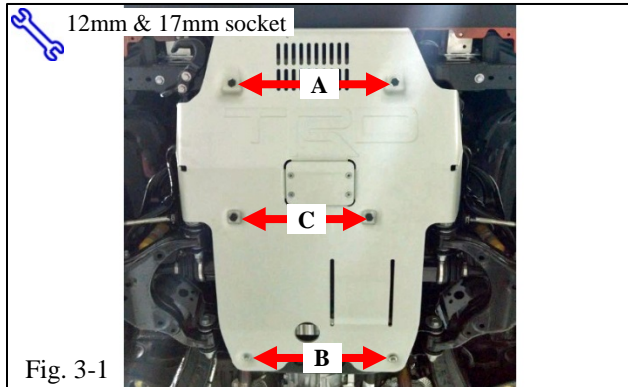

Fig. 3-1
- (a) Use a 17mm hex socket to finger start the front bolts (M12 x 1.25 x 67mm) (A, Fig. 3-1).
- (b) Use a 12mm hex socket to finger start the rear bolts (M8 x 1.25 x 35mm) (B, Fig. 3-1).
- (c) Use a 17mm hex socket to finger start the middle bolts (M12 x 1.25 x 90mm) (C, Fig. 3-1).